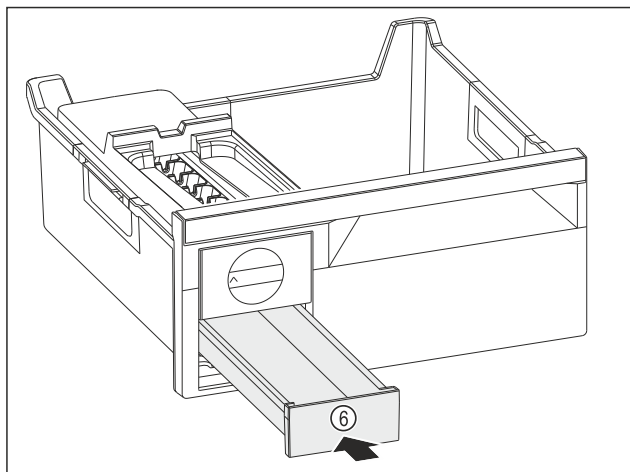

Fig. 129
- ▶ Insert the ice cube drawer Fig. 129 (6).